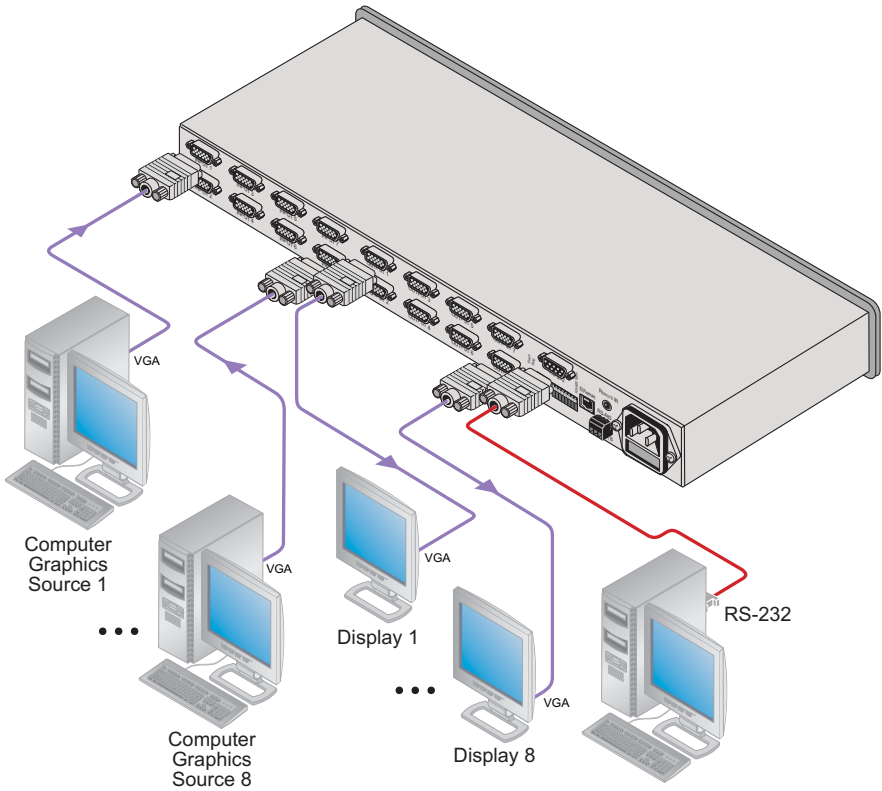

Figure 3: Connecting the VP-8x8 8x8 VGA / UXGA Matrix Switcher
1. Connect up to 8 VGA/UXGA computer graphics sources to the input connectors (see the example in Figure 3).
5. Connect the power cord (not shown in Figure 3).